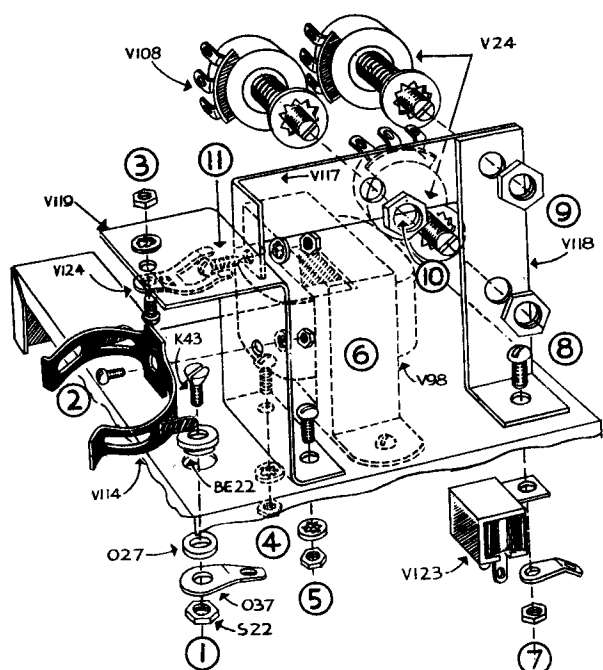

Fig. 2
- (✓) Step 8. Mount a 10K (this may be marked 10M—note the V24 marking) control (V24) (with lugs in direction as shown in figure 2) with a control lockwasher and nut.